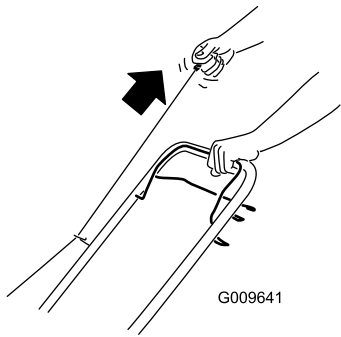

Figure 14
2. Pull the recoil-start handle (Figure 14).
Note: When you pull the recoil start handle, pull it lightly until you feel resistance, then pull it sharply (Figure 14). Allow the rope to return to the handle slowly.